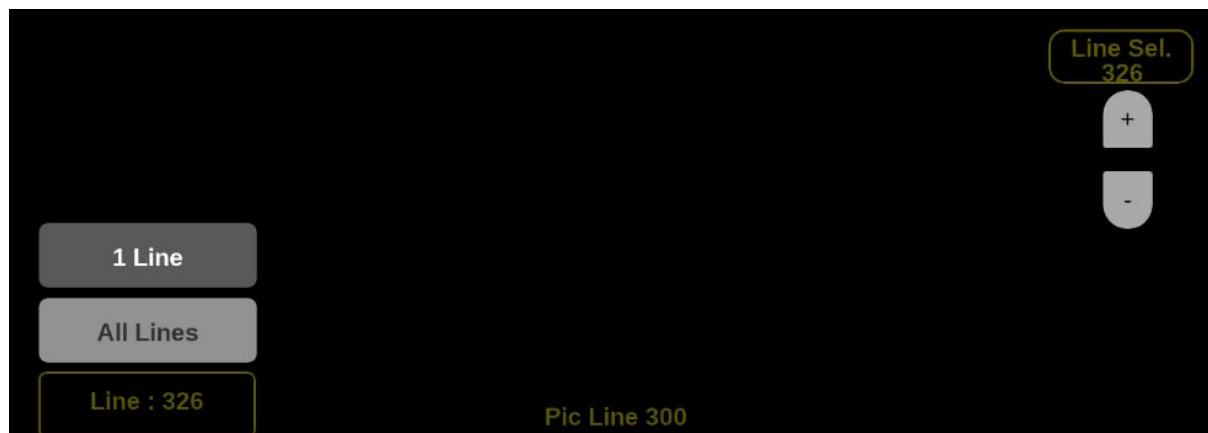

Figure 98: Vector on-screen tools – Line Select
1. Select the **Lines** button at the bottom of the application. (See Figure 98.)